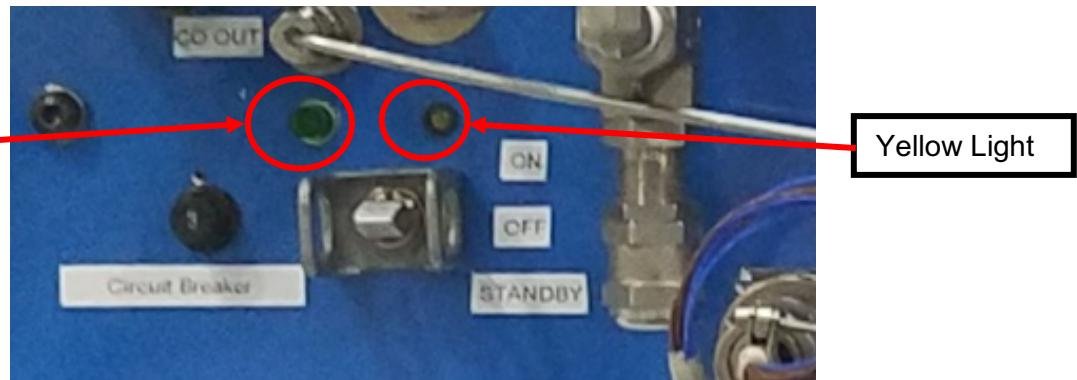

Figure 7: Sabatier Panel
- 7.1 On the Sabatier Panel, move the power switch to “STANDBY”. (see Figure 7)
- 7.2 Confirm yellow light blinks indicating Sabatier is in Standby mode. (see Figure 7)
- 17.1 Switch Sabatier to “ON”. (see Figure 7)